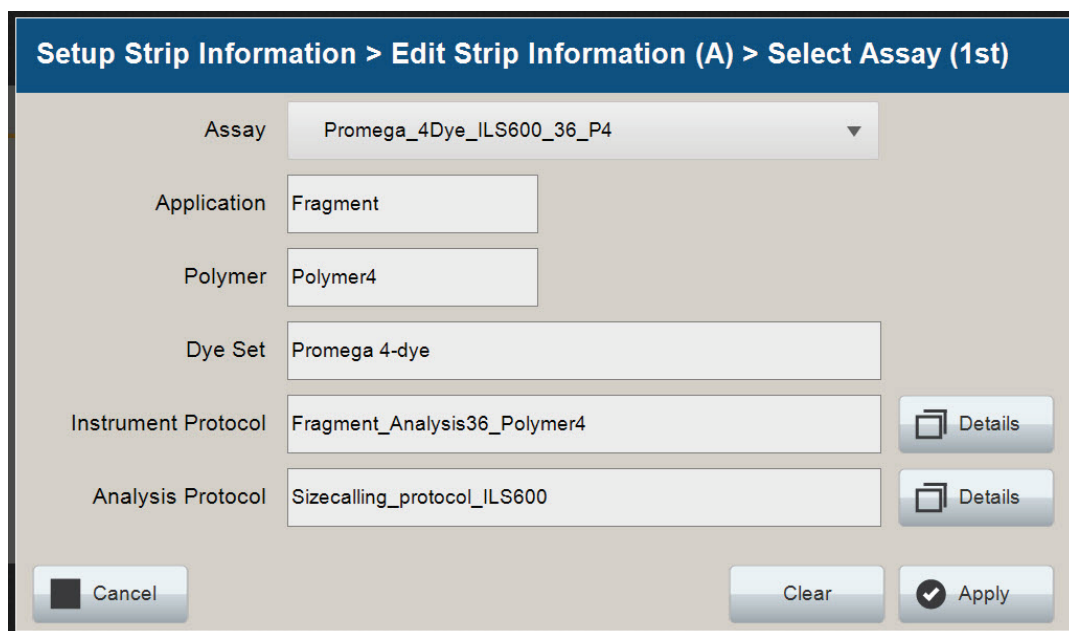

Figure 16. Accessing Instrument and Analysis Protocols on 'Select Assay' window.
8. You can verify the settings of the Instrument Protocol and Analysis Protocol associated with the assay chosen by selecting **Details** next to these fields (Figure 16). This will display a window showing the settings in these protocols but will not allow you to edit these settings. Refer to the *Spectrum Compact CE System Operating Manual #TMD058* to edit the Instrument Protocol or Analysis Protocol. When the assay information is confirmed, select **Apply** to return to the 'Edit Strip Information' screen.